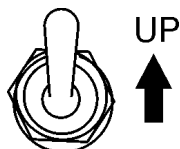

Figure 21. Idle Control Switch (Up)
- Place the idle control switch (Figure 21) in the **ON** position (Up).